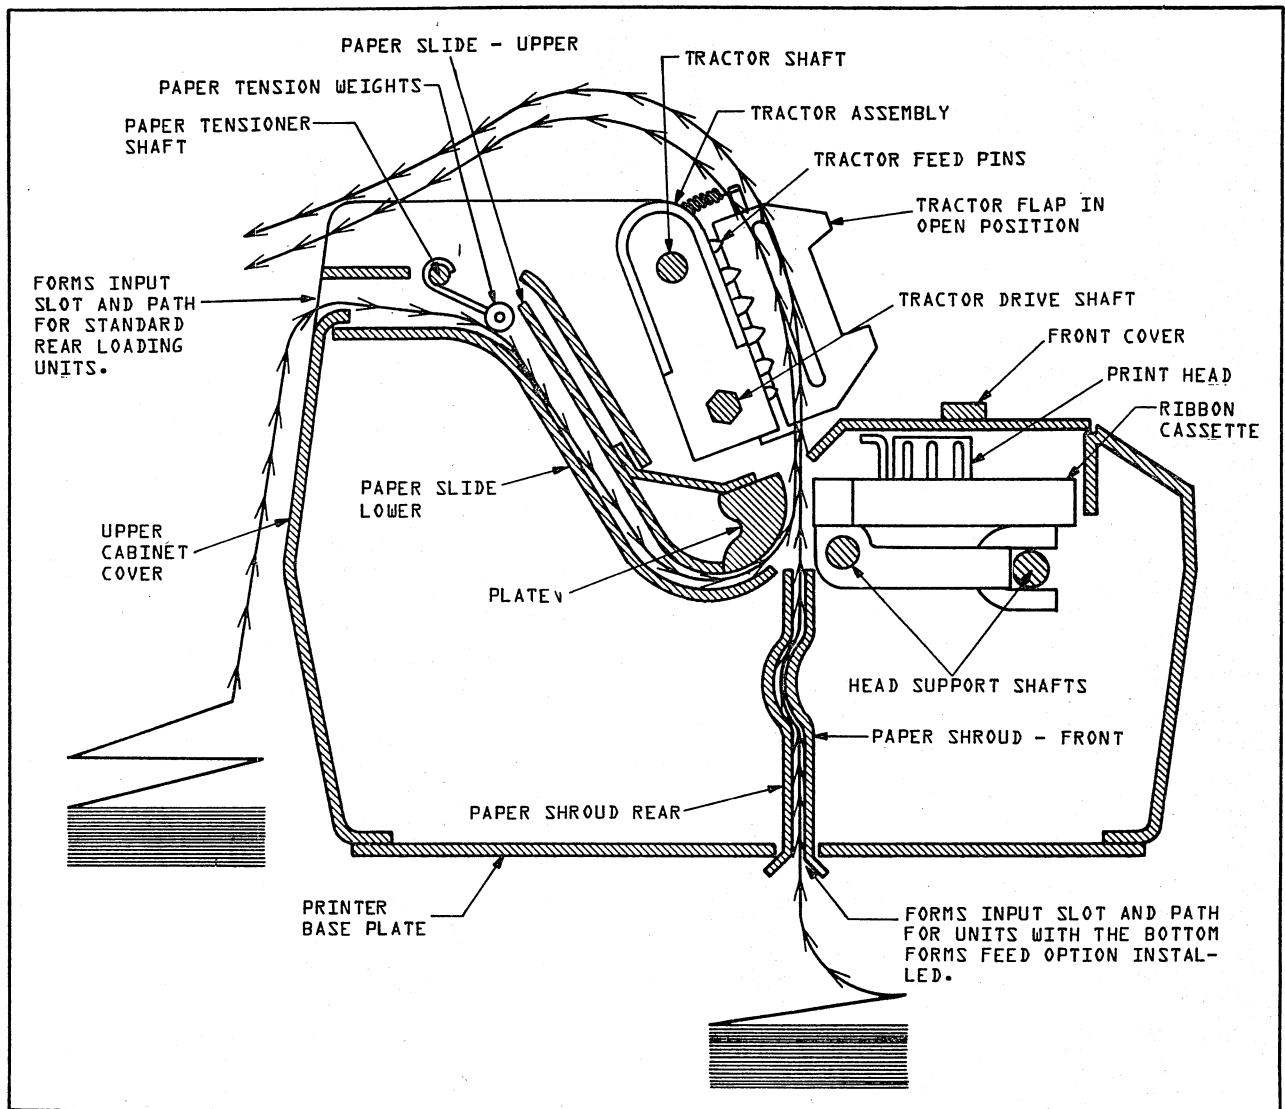

FIGURE 2-5. FORMS PATH FOR REAR AND BOTTOM LOADING UNITS
Forms Installation and Alignment For Standard Rear Loading Units (Figure 2-5).
Forms Installation and Alignment For Units With The Bottom Forms Feed Option Installed (Figure 2-5).
2. Insert the form into the printer following the form path shown in Figure 2-5 and until the form is visible just below the tractors.